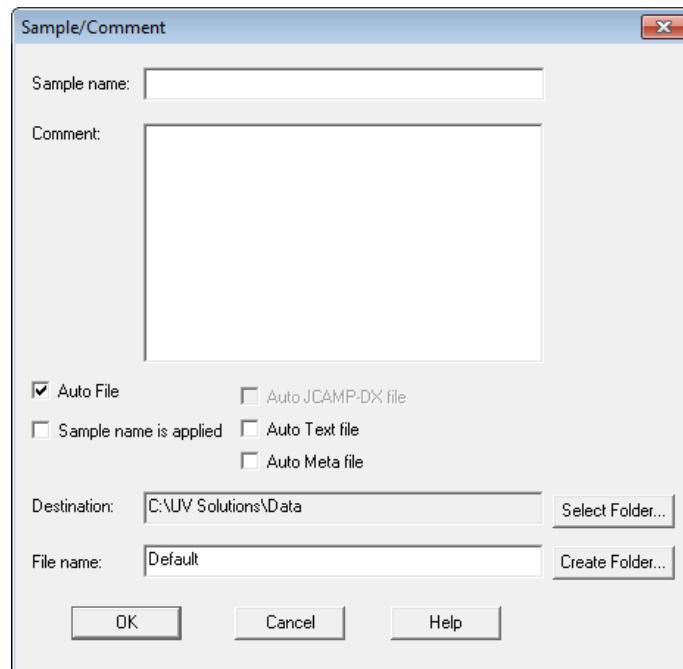

Fig. 4-27
- (1) Click the  button. A window as shown in Fig. 4-27 will appear.